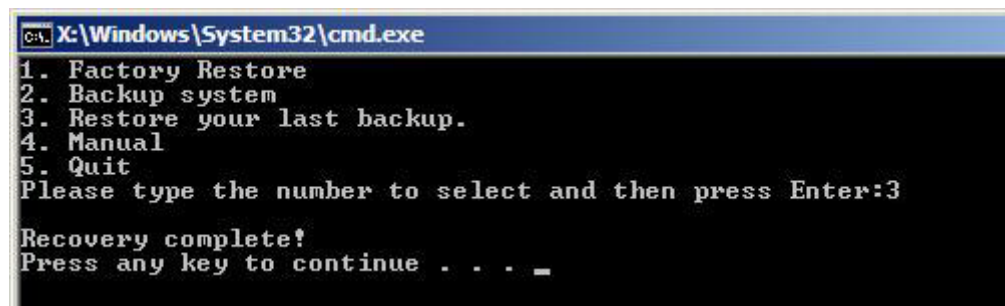

Figure B-32: Restore System Backup Complete Window
Step 3: The screen shown in **Figure B-32** appears when backup recovery is complete. Press any key to reboot the system.